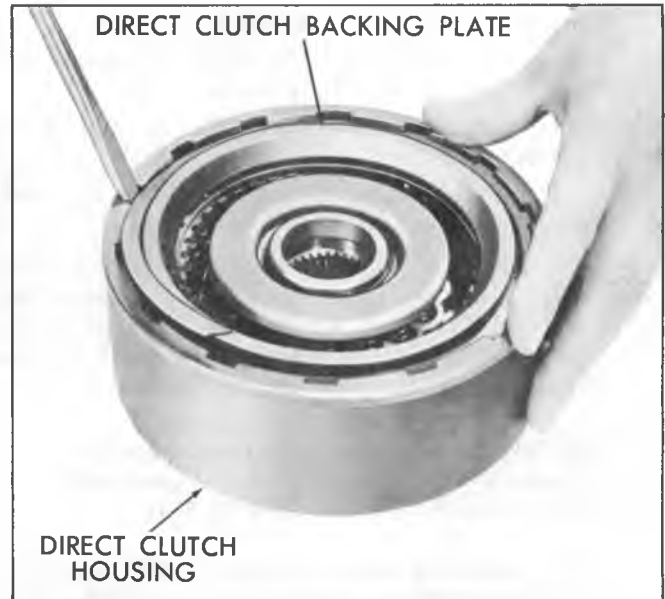

Fig. 80T--Removing Direct Clutch Backing Plate Snap Ring
3. Turn unit over and remove backing plate to direct clutch housing snap ring (fig. 80T).
**NOTE:** Models CF, CR, CS, and CY, have six (6) composition and six (6) steel clutch plates. No waved steel plate used in model CY.